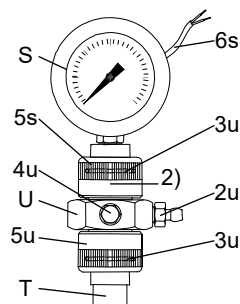

Fig. 22 Diaphragm controller
- Connecting the earth cable (4u), see fig. 22.